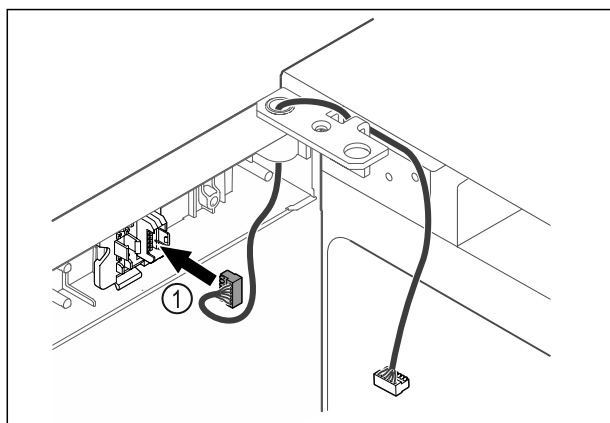

Fig. 59
- ▶ Put the plug Fig. 59 (1) in the plug holder.